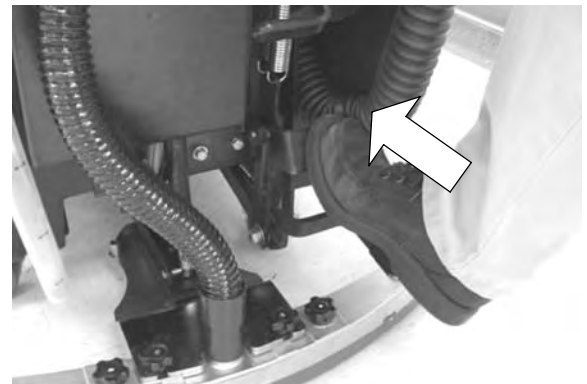

FIG. 15
3. Lower scrub head. Depress top brush lift foot pedal forward to lower (Figure 15).